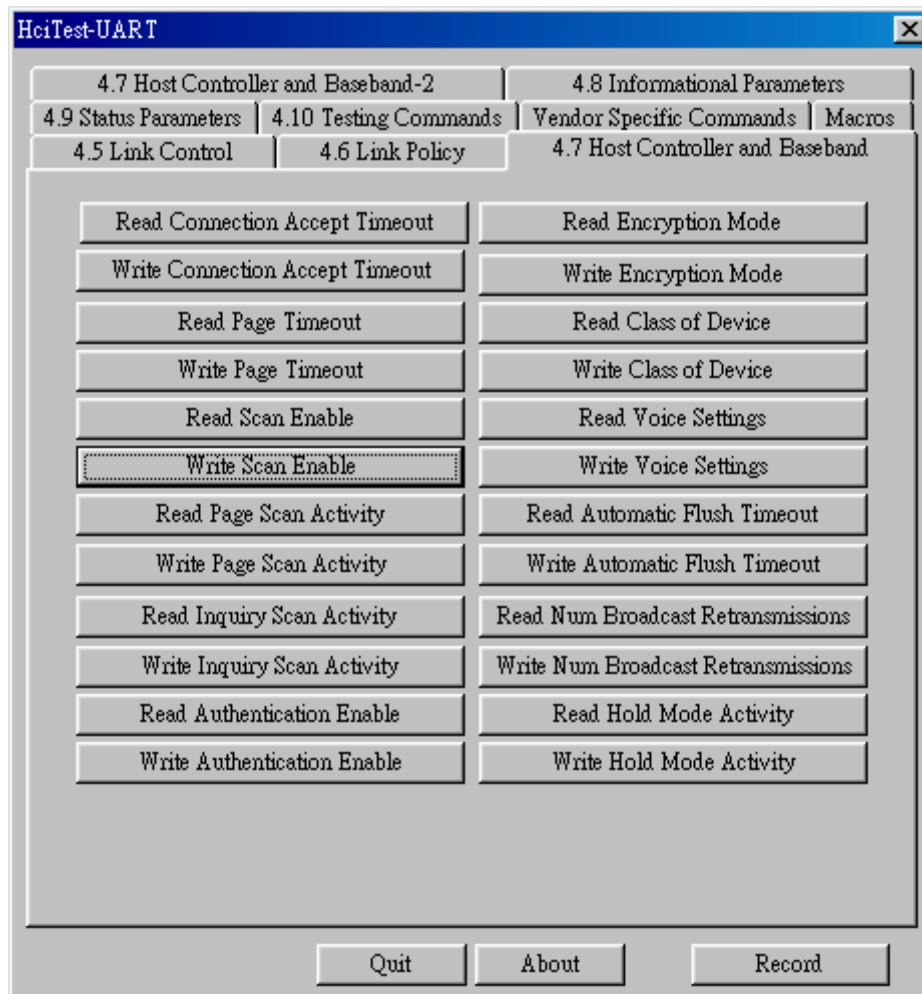
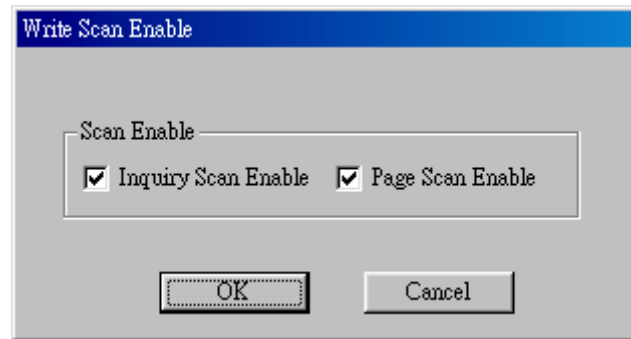
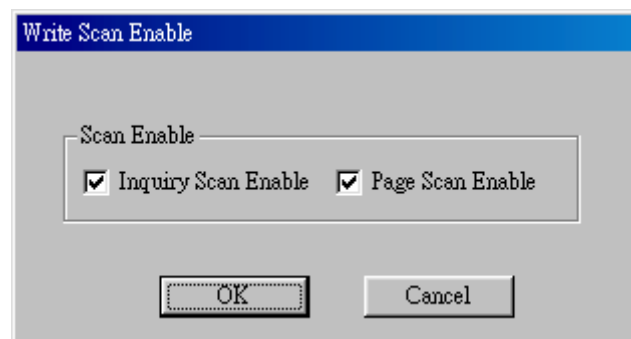

Figure 16: Write Scan Enable
Figure 17: Write Scan Enable Window Appear
Figure 18: Deselect Inquiry Scan Enable
7. On the Slave computer, select “**4.7 Host Controller and Baseband**” box, then click on the “**Write Scan Enable**” button. (as Figure 16). A “**Write Scan Enable**” window will appear (as Figure 17), please deselect *Inquiry Scan Enable* (as Figure 18).